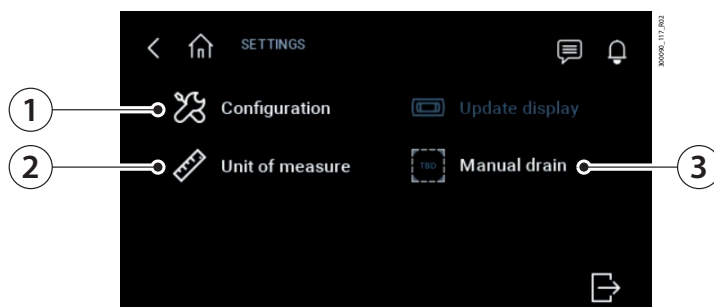

Fig. 12.h
- manually drain the water in the boiler (3 - Fig. 12.h).